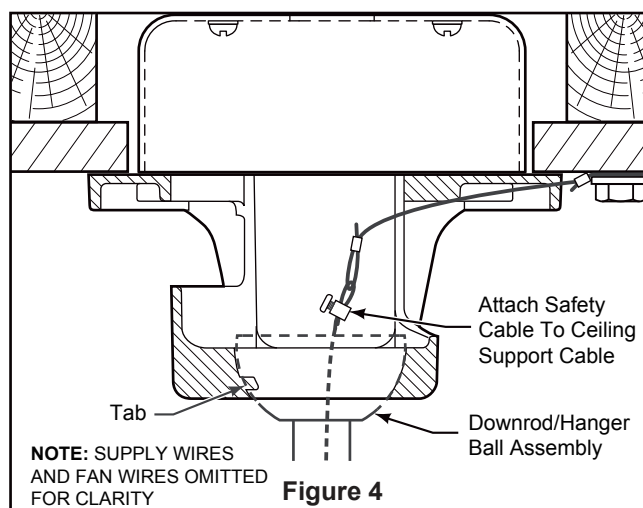

Figure 4
4. Slide downrod into the downrod support on top of the motor. Install the clevis pin by aligning the holes in the downrod support with holes in the downrod. Secure clevis pin with hairpin clip. Install and tighten the two set screws with nuts in the downrod support. (Figure 4)
4. Carefully lift the fan and seat the downrod/hanger ball assembly onto the hanger bracket that was just attached to the outlet box. Be sure the groove in the ball is lined up with tab on the hanger bracket. (Figure 4)
5. Attach the safety cable to ceiling support cable. Slide cable clamp and washer onto safety cable (from fan). Place the end of cable through the loop of ceiling support cable. Pull as much cable through loop as possible. Feed end of cable into clamp hole and firmly tighten screw. (Figure 4)
- (Figure 4)
- 4. To set the remote code in the same positions as the receiver, use a small screwdriver or ball point pen (neither included) to slide dip switches firmly up or down. (Figure 4)